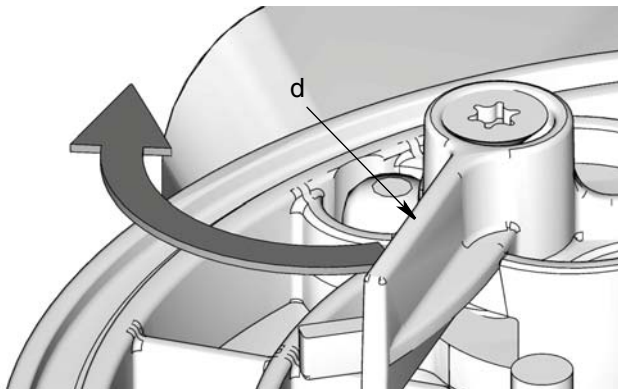

FIG. 9
**NOTE:** If a low level paddle (d) is installed, to prevent damage, hold low level paddle in its full out position while installing stirring paddle (FIG. 9).
1. Verify low level paddle (d) is in full out position as shown in FIG. 9.